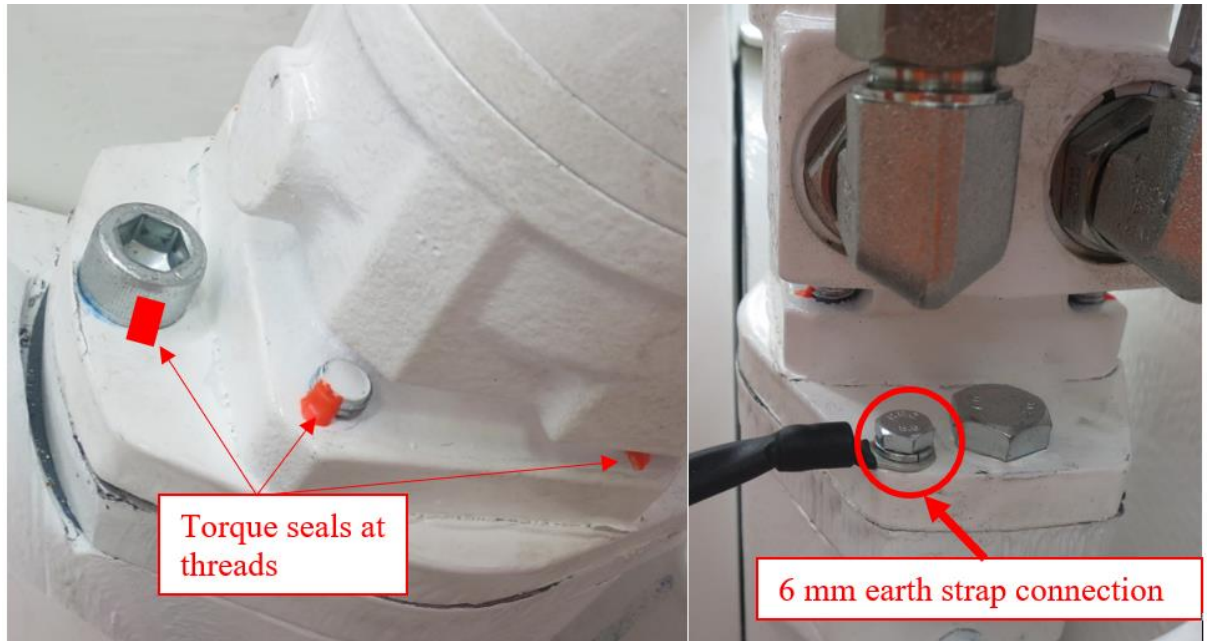

Figure 6 – Assembled Parker TE165 and worm drive
12. Assemble the motor and the worm drive as shown in Figure 6. Torque M12 bolt and cap screw to approx. 50 Nm.
13. Replace the 8 mm earth strap with a 6 mm one to suit new bolt connection (refer to Figure 6 for illustration)